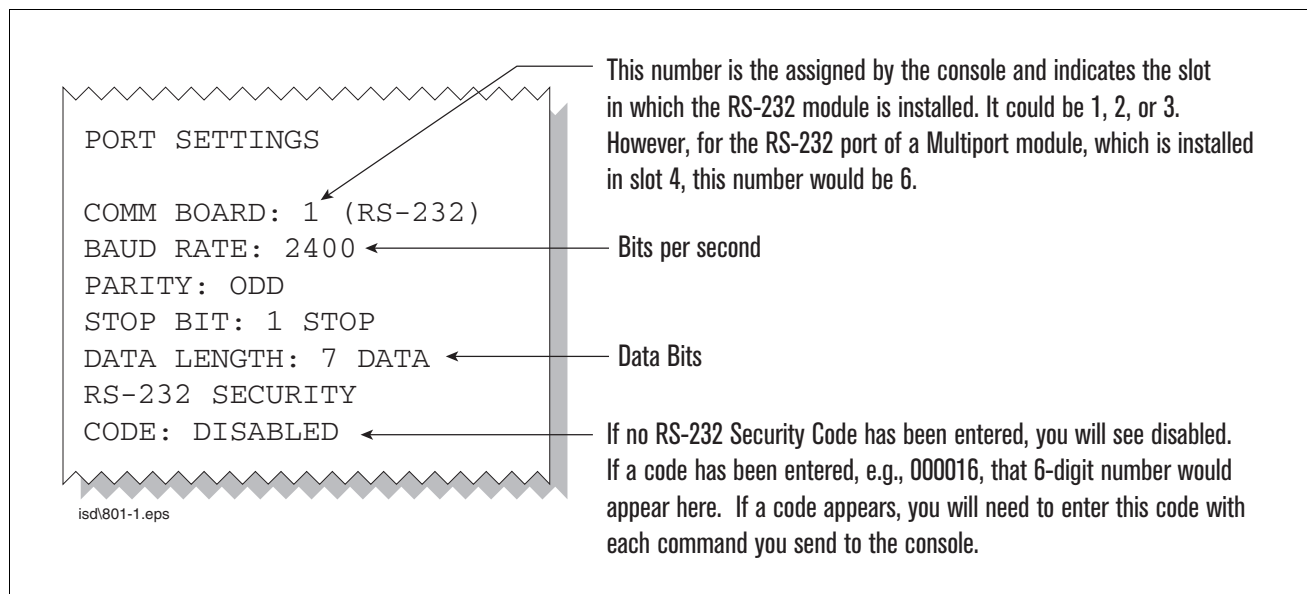

Figure 30. Console comm port settings printout example
- d. Press the PRINT key to printout the port settings for all communication modules installed in the console. Figure 30 shows an example port settings printout with the RS-232 module installed. Using the console port settings in the example below, your HyperTerminal 'Port Settings' window entries would be Bits per second - 2400, Data bits - 7, Parity - Odd, Stop Bits - 1. For the 'Flow Control' entry select None. Click OK.